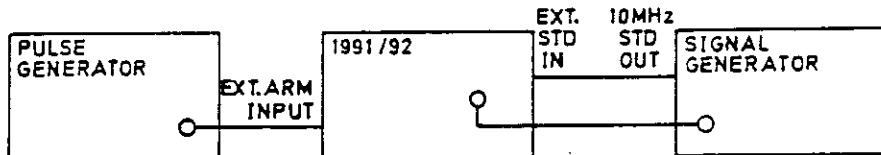

Figure 6.34 – Connections for External Arming PVP
- Connect the test equipment as shown in Figure 6.34